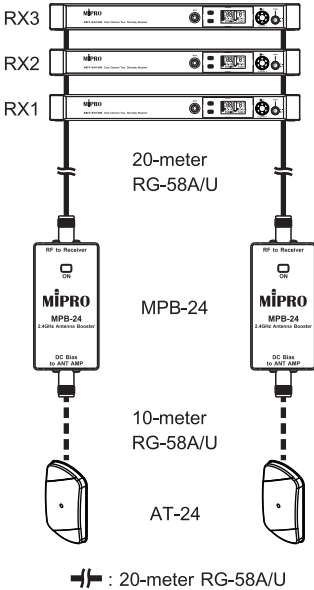

Fig. 4
3. Multiple Receivers. Fig. 4: